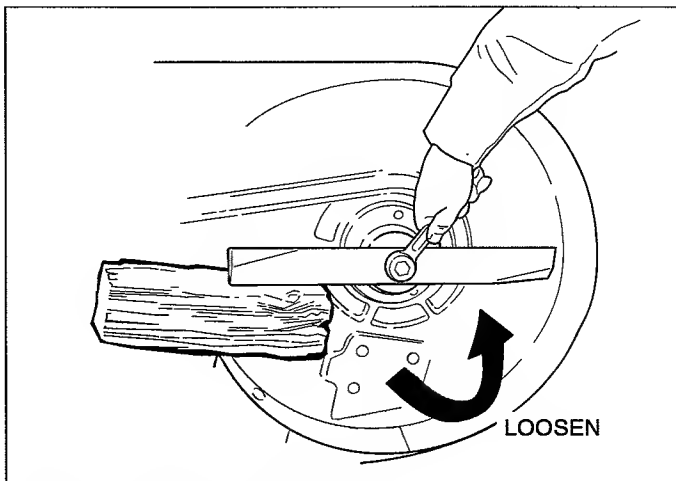

Figure 20. Removing the Blade
3. To remove blade for sharpening, use a wood block to hold blade while removing the blade mounting cap-screw (Figure 20).